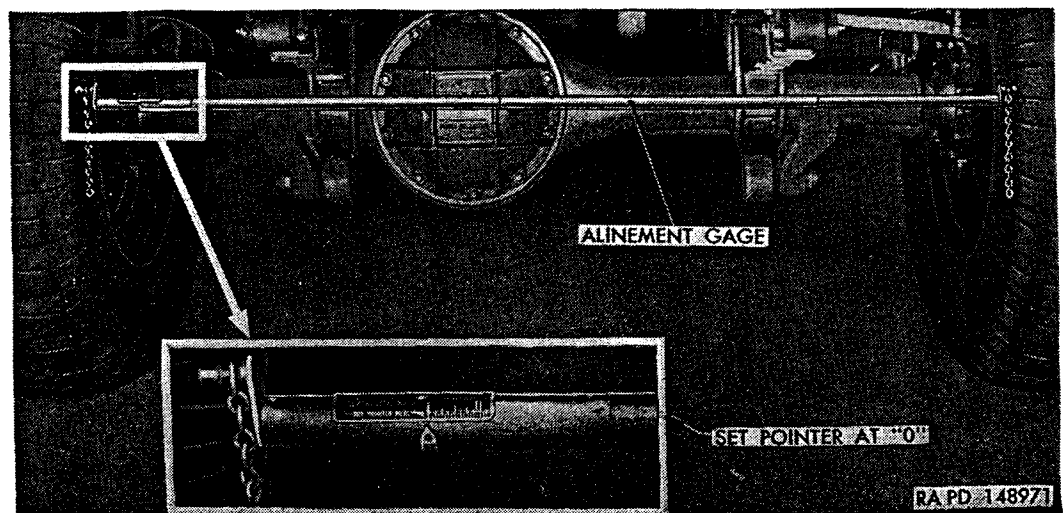

Figure 228. Checking toe-in.
a. Toe-In Check (fig. 228). Inflate tires to correct pressure (par. 258*b*) and check for proper wheel bearing adjustment (par. 265*a*); then position vehicle with the wheels in straightahead position. Place a toe-in wheel alinement gage between the wheels ahead of the axle at hub height with the ends of the gage bearing against the tire side walls and with ends of both pendant chains an equal distance from ground. Set gage so pointer registers zero. Remove gage and place at same relative position at rear of tire and with ends of pendant chains same distance from ground as at front. The pointer will indicate the amount of toe-in or toe-out. Correct toe-in is $\frac{5}{32}$ to $\frac{7}{32}$ inch.